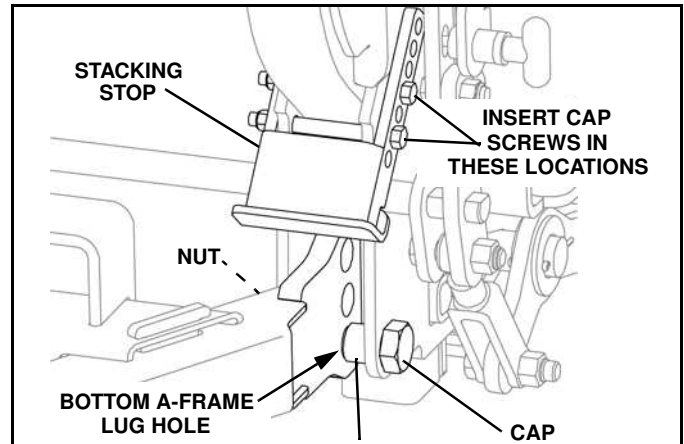

Figure 1-11
a. With a dimension of 8" to 9", the bottom lug holes are used to connect the A-Frame to the Lower Light Lift Bar (LLL) frame. Insert the 1.00-8 x 5" hex head cap screw from the outside through the LLLB frame, spacer, A-Frame lug bottom hole and LLLB frame. Secure with 1.00 x 8 lock nut. Position the Stacking Stop as shown and secure with two 1/2"-13 X 5.00 hex head cap screws and two 1/2"-13 lock nut as shown. Repeat this step for the opposite side. (See Figure 1-11). Proceed to Step 16.